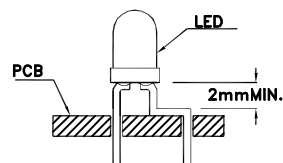

Fig. 5
1. Maintain a minimum of 2mm clearance between the base of the LED lens and the first lead bend. (Fig. 5 and 6)